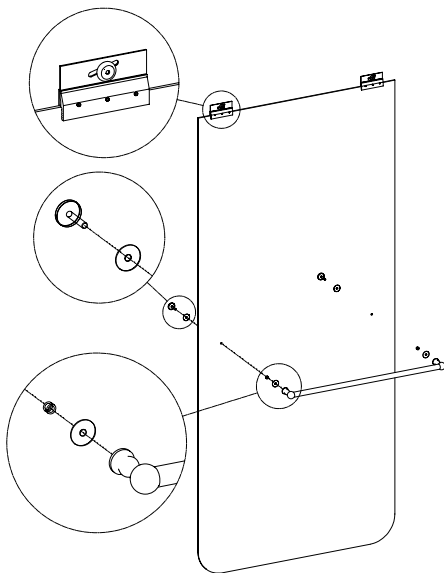
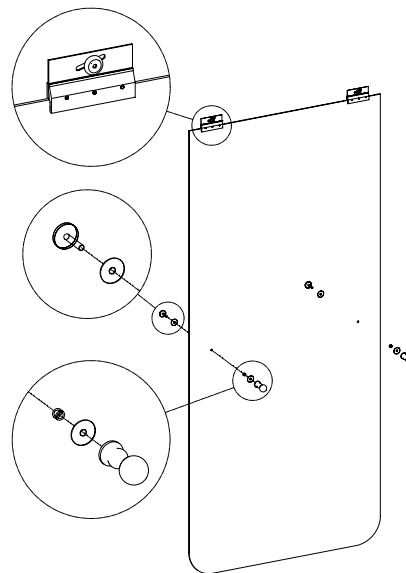

Figure 7
Figure 8
1. Attach the towel bar to the outside panel by first putting the plastic grommets into the holes in the glass. Next, put a plastic washer over the towel bar screw and insert into the grommet. Put a plastic washer on the other side of the grommet and thread screw loosely into the towel bar. **SEE FIGURE 7.** Repeat this process for the other side of the towel bar and the two pull knobs for the inside panel. **SEE FIGURE 8.** Hand tighten after all the screws are in place. If the bar or knobs loosen over time, place a cloth over the screws and tighten with pliers.